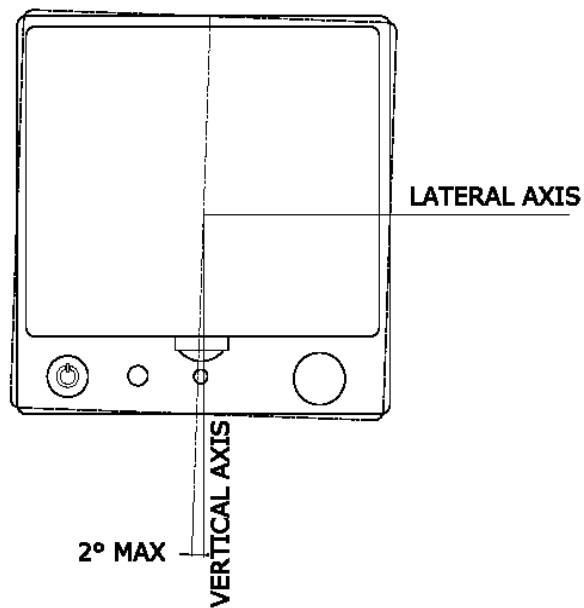
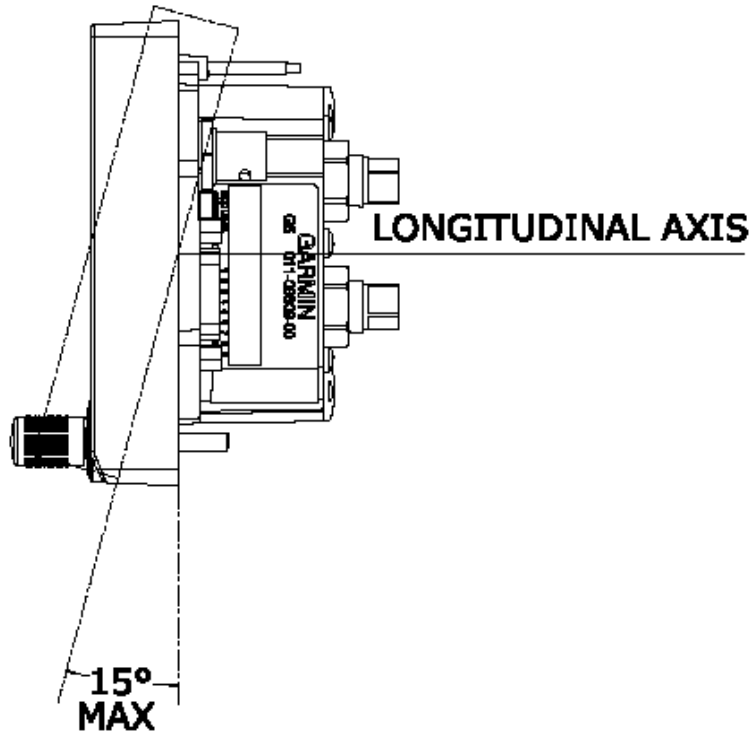
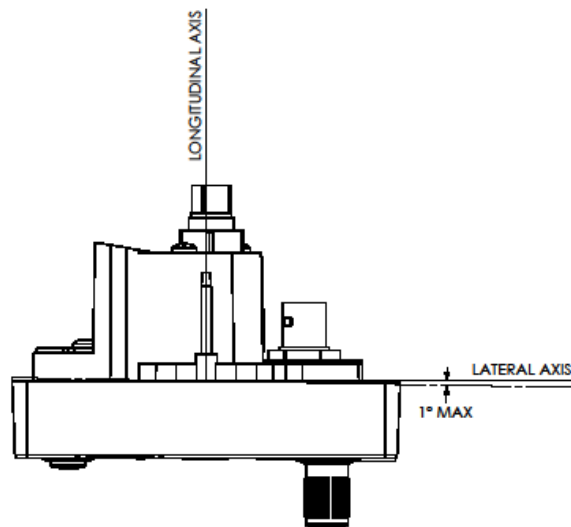

Figure 4-3 Maximum Misalignment of the G5 in the Lateral Axis
Figure 4-4 Maximum Misalignment of the G5 in the Longitudinal Axis
Figure 4-5 Maximum Misalignment of the G5 in the Vertical Axis
- The G5 must be leveled to within 15.0° in the longitudinal axis (Pitch). (Reference Figure 4-4)
- The G5 must be leveled to within 2.0° in the lateral axis (Roll). (Reference Figure 4-3)
- Mount the G5 with the connector aligned to within 1.0° of the vertical axis (Yaw) of the aircraft (display bezel parallel to the wing spar carry thru). (Reference Figure 4-5)
- 4) The new location must satisfy the alignment requirements shown in Figure 4-3, Figure 4-4, and Figure 4-5.
- 1) The mounting location must satisfy the alignment requirements shown in Figure 4-3, Figure 4-4, Figure 4-5.